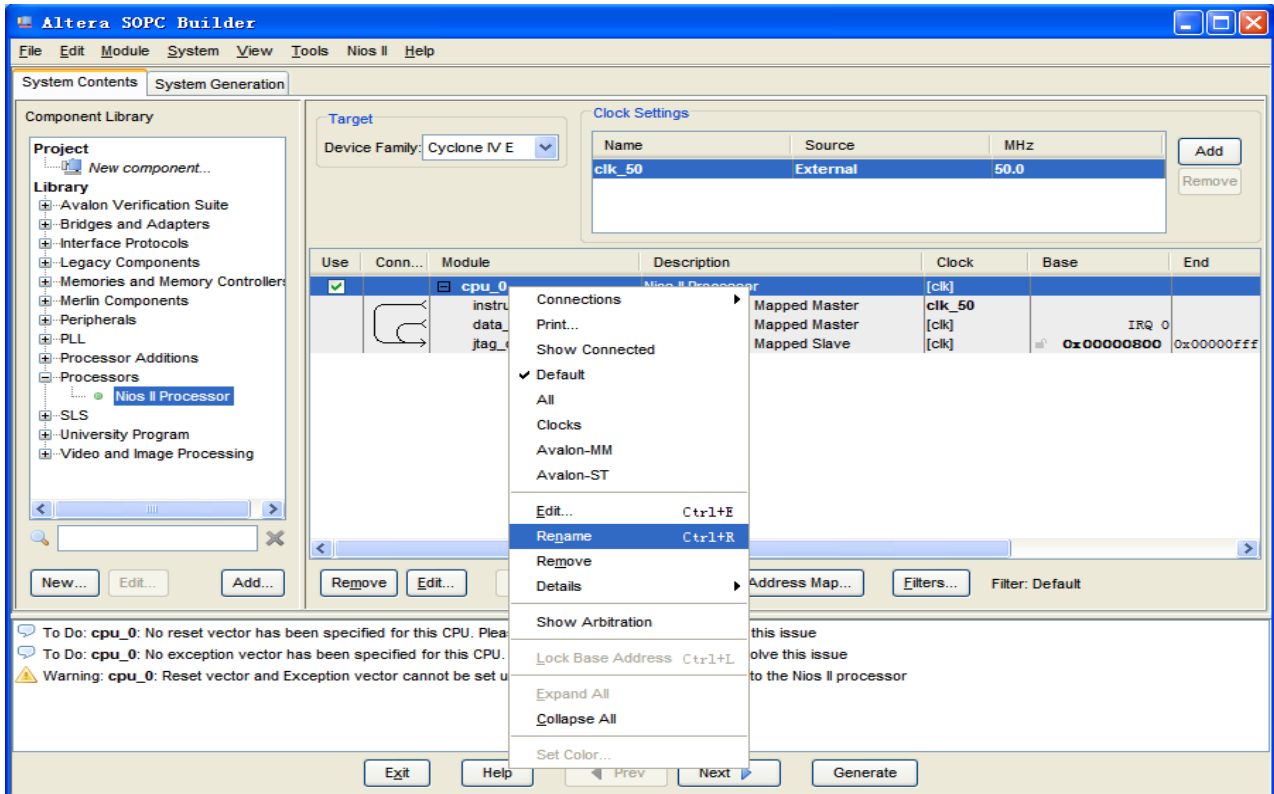

Figure 7-17 Rename the CPU (1)
10. Select the **cpu\_0** component and right-click then select rename, after this, you can update **cpu\_0** to **cpu**, as shown in Figure 7-17 and Figure 7-18.